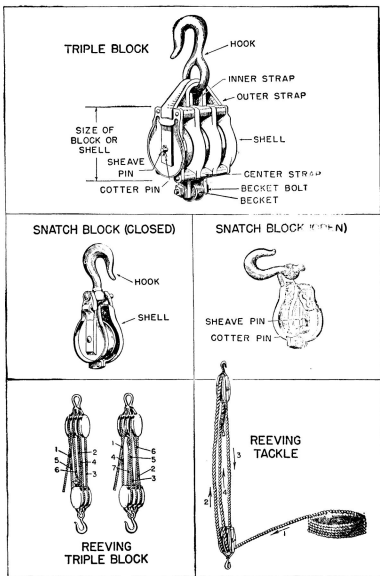

FIGURE 56.—Blocks and tackle.
■ 30. BLOCKS AND TACKLES (figs. 56 and 57).—The parts of a block are the shell or frame, the sheave or wheel upon which the rope runs, and the pin upon which the wheel turns in the shell. Blocks are designated by the length of the shell in inches and by the number of the sheaves. Those with one, two, three, or four sheaves are called single, double, triple, and quadruple. The smallest size of block (length in inches) that will take a given rope is nine times the rope diameter. Self-lubricating blocks should be used where obtainable.